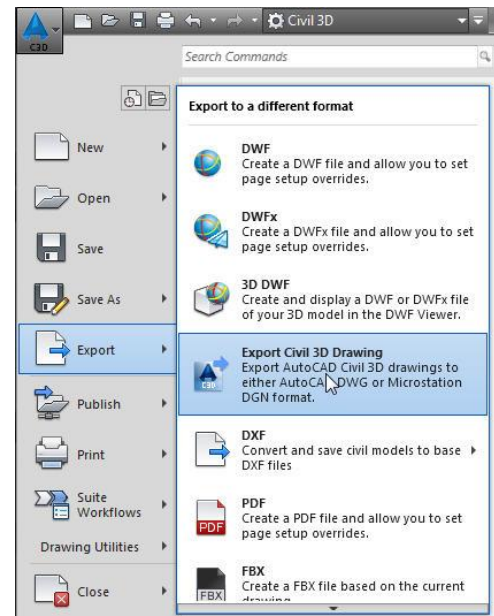

Figure 34: Export Civil 3D Drawing to .dwg
- Export your Civil 3D drawing as an AutoCAD file (when you do this it converts your surface mesh to 3D face objects) (Figure 34)